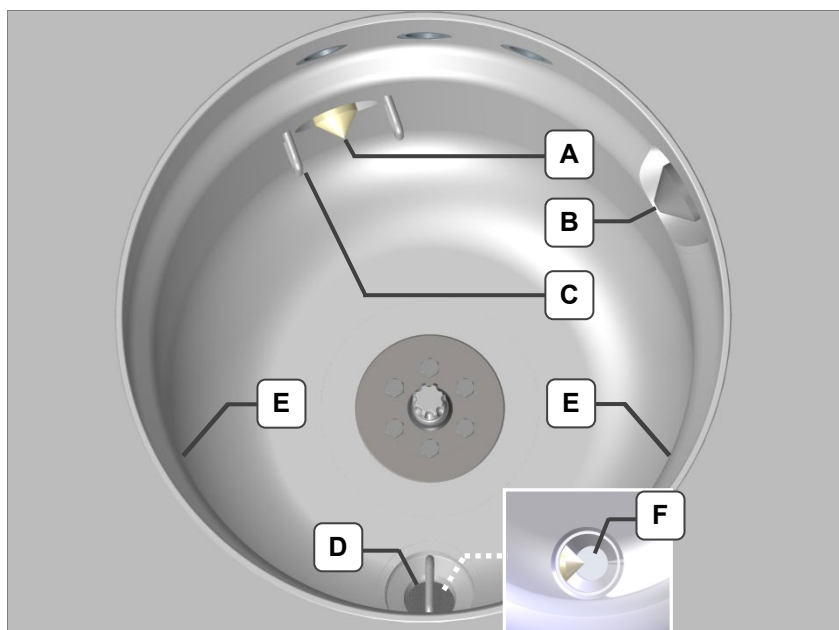

Fig.9.1.2.1 View of cleaning chamber
- Procedure** Unscrew the drain sieve (*Fig. 9.1.2.1.D*) anticlockwise out of the drain groove.
- Inspection criteria** Visually inspect the surfaces of the filling level sensors and the guard bar for soiling or damage (*Fig. 9.1.2.1.A/B/C/F*).